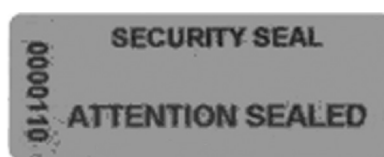

Figure 3
- damage to the seals Figure 3.